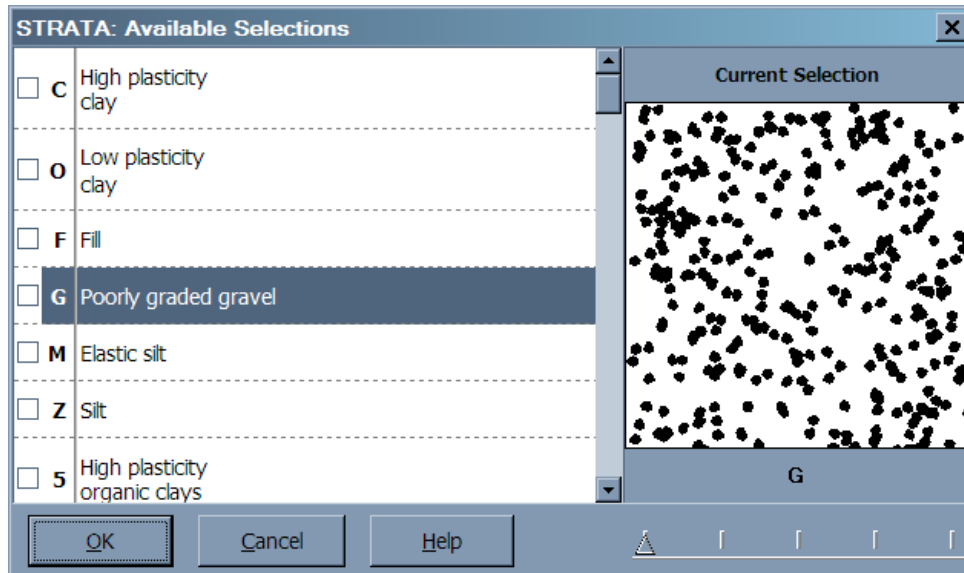

Figure 2.13: STRATA Selection Dialog
3. Clicking the button displays the STRATA selections dialog (Figure 2.13). You can combine up to five different strata patterns to represent your stratigraphy: Click on a menu selection to add a pattern to the combination; click the selection a second time to remove it.